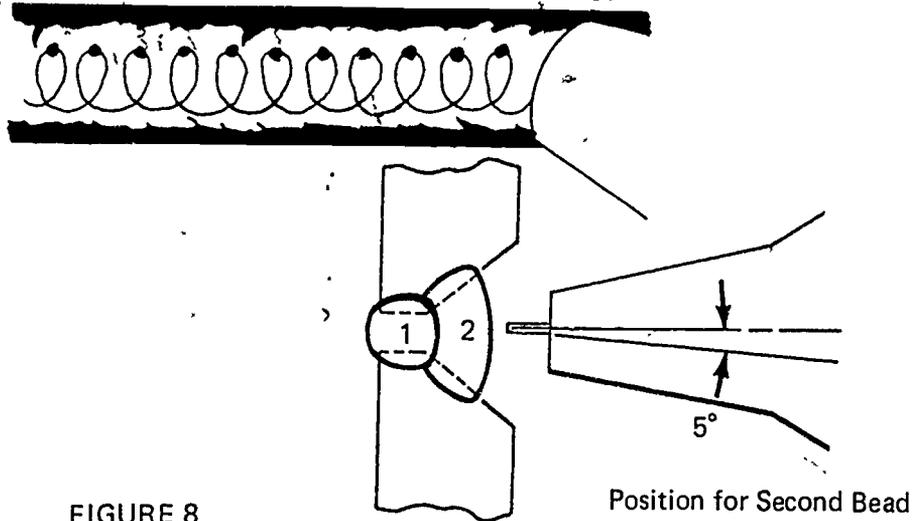

FIGURE 8
- L. Weld second pass with same electrode angle used for first pass and use some type of electrode manipulation. (Figure 8)